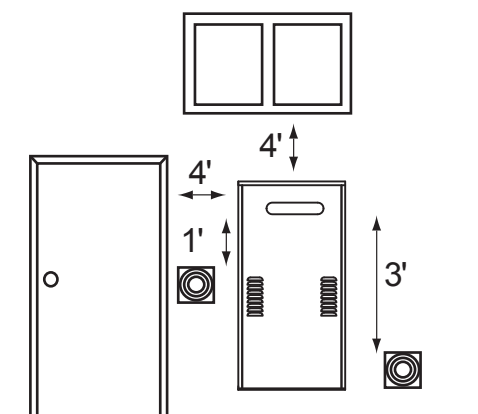

Figure 1: Discharge Vent Clearances.
• The recess box should be installed so the discharge vent maintains the minimum allowable clearances as required by the local authority. Where no local requirement exists, maintain the following minimum suggested clearances from building openings as shown in Figure 1: